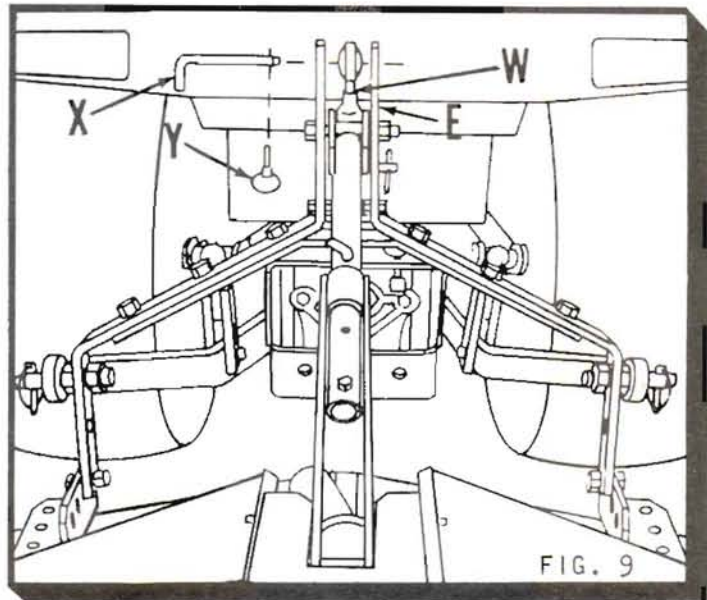

FIG. 9
NOTE: For mounting onto Satoh Beaver Tractors you must assemble the tube and handle assembly (W) into the top of three point hitch mast (E). (See Fig. 9)
4. Assemble tube and handle assembly (W) in line with top hole of three point hitch mast (E), secure with locating pin (X) and klik pin (Y). (See Fig. 9)